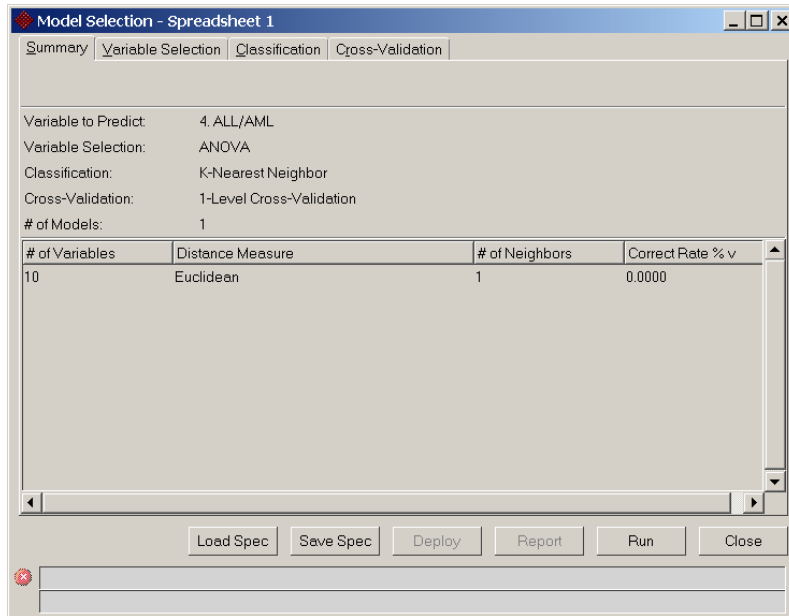

Figure 12. 2: Configuring the Model Selection dialog
- To open the *Model Selection* dialog (Figure 12. 2), select **Tools > Predict > Model Selection** from the Partek main window
- On the *Summary* tab (Figure 12. 3), the *Variable to Predict* field shows the categorical variable in the current spreadsheet that will be predicted